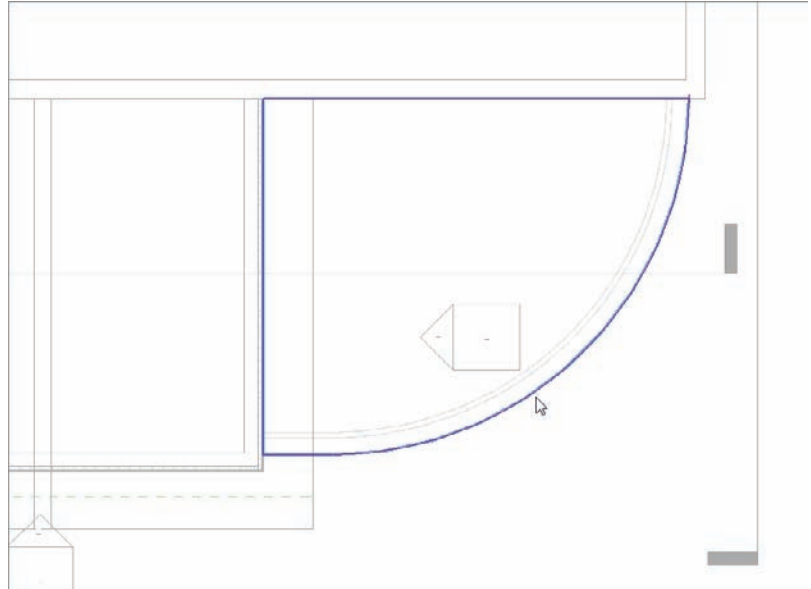

FIGURE 16.54 The roof footprint
10. Clean up any overlapping corners. Your sketch should look like Figure 16.54.